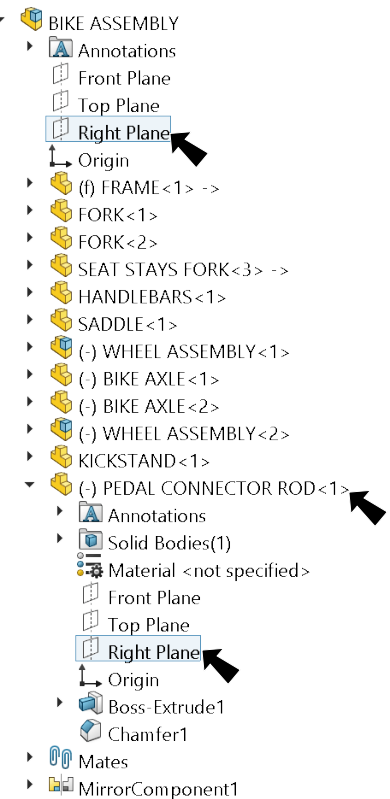

Fig. 15
Step 2. Expand the flyout Feature Manager design tree, expand **CONNECTOR ROD** and click **Right Plane** , **Fig. 15**.